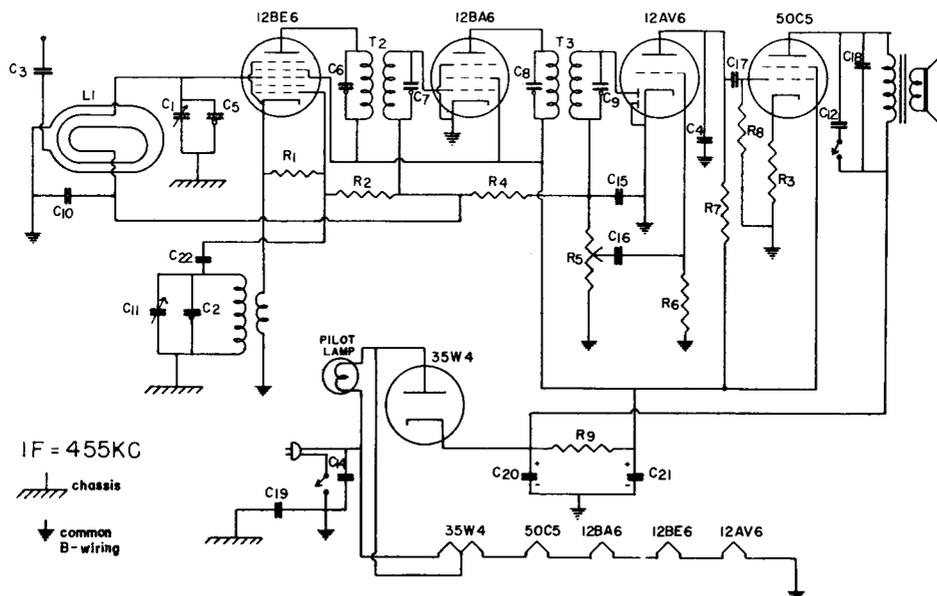

FIG. 17. Schematic diagram of a modern radio receiver.
Let us see how to trace signals through a tube receiver, using the Model 230 Signal Tracer. Later on you will see that the procedure on a transistor set is almost exactly the same. Fig. 17 shows a complete schematic diagram of the set. The various signal tracing steps are as follows.
7. Touch the probe to the antenna lead on the receiver (free lead at C_3) in Fig. 17.